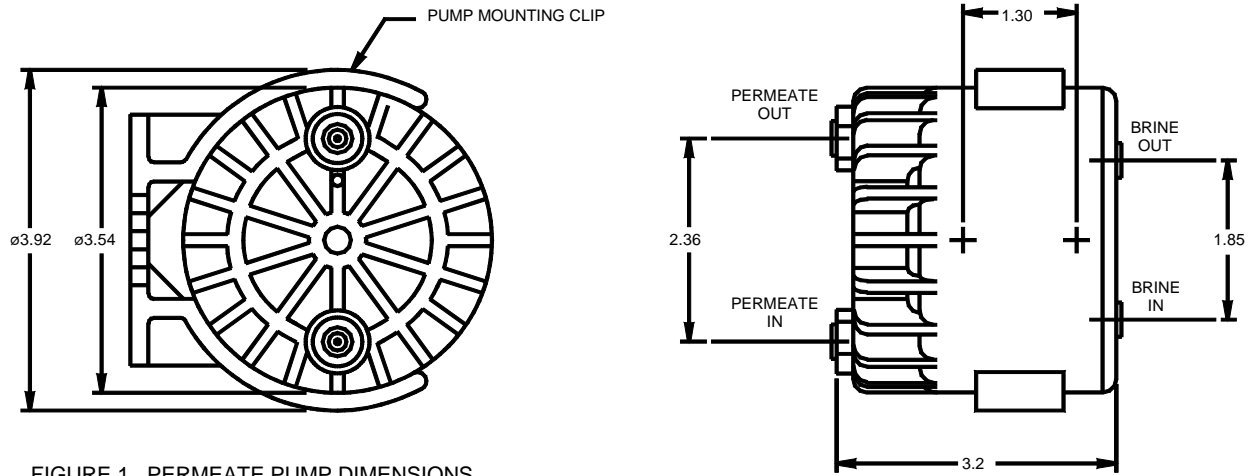

FIGURE 1. PERMEATE PUMP DIMENSIONS
1. Inspect **Permeate Pump** (Figure 1) and **Optional** items, i.e. 4 fittings, Permeate Mounting Clip Kit, and Retrofit Kit. Remove the plugs from the 4 ports and make sure there is no foreign material in the ports.